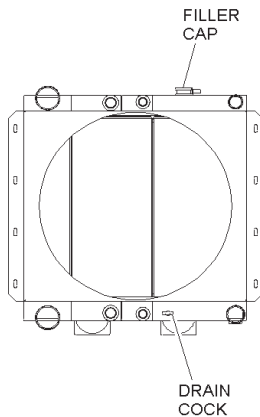

Figure 7-10. Radiator
2. Only remove filler cap, Figure 7-10, when cool enough to touch with bare hands.